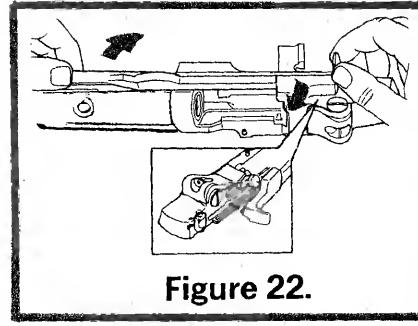

Figure 22.
9. Pull slide handle to the rear. Align locking projections on slide with disassembly notch on receiver. Remove slide (Figure 22).